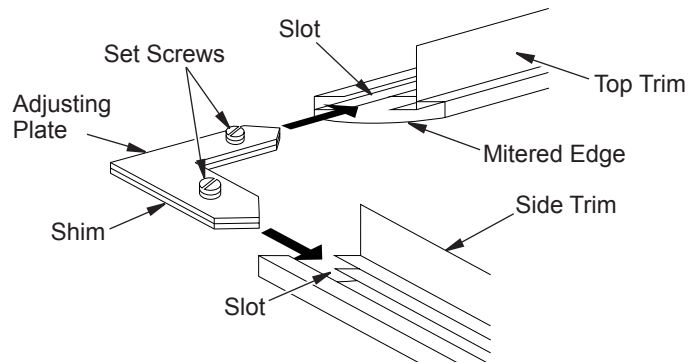

Figure 7 - Assembling Trim
3. Align shim under adjusting plate as shown in Figure 7.
4. Slide one end of adjusting plate/shim in slot on mitered edge of top trim (see Figure 7).
5. Slide other end of adjusting plate/shim in slot on mitered edge of side trim (see Figure 7).